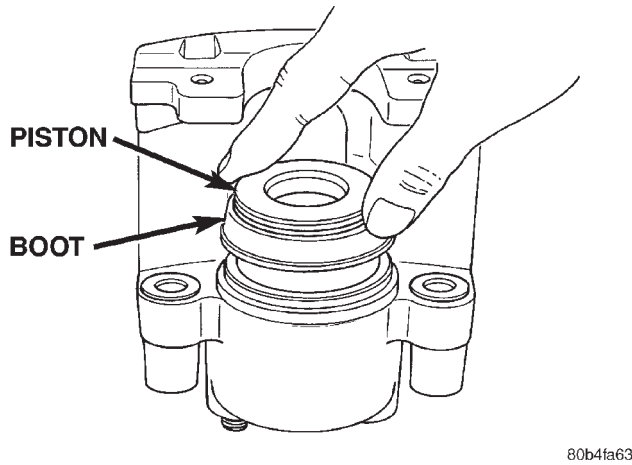

Fig. 79 Caliper Piston Installation
- (4) Stretch boot rearward to straighten boot folds, then move boot forward until folds snap into place.
- (5) Install piston into caliper bore and press piston down to the bottom of the caliper bore by hand or with hammer handle (Fig. 79).